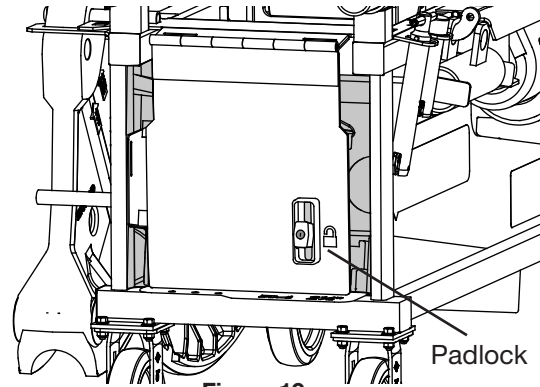

Figure 19
- Follow bars and any items in the Misc. storage shelf (such as pins) are secured by swinging the forward tray downwards and padlocking through the slot in the tray. (Fig. 19)